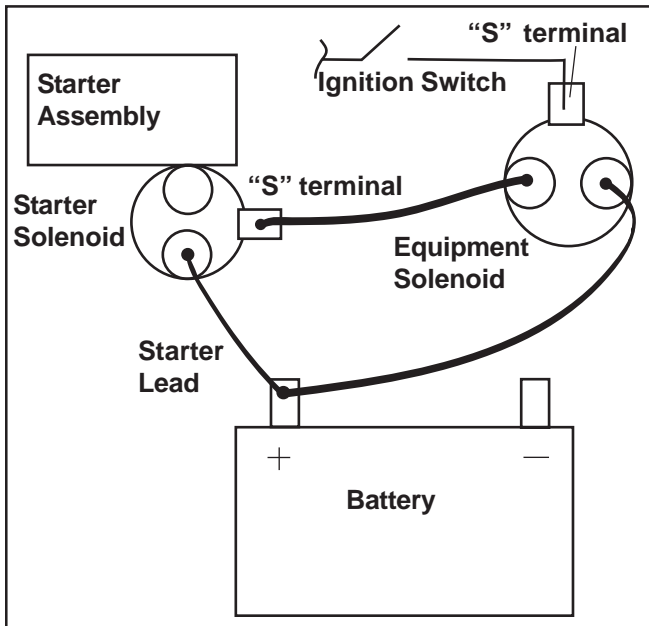

Figure 2.
5. Refer to the new wiring diagram, Figure 2. Relocate the solenoid "S" terminal lead and the main starter lead, to match the diagram. For some applications, it may be necessary to fabricate a new, longer "S" terminal lead. Use 14 gauge wire. Tighten all electrical connections securely. The post terminal on the solenoid of the Delco starter is copper. To avoid damage or breakage, do not overtighten the hex. flange nut when attaching the positive battery cable and B+ lead. Torque the nut to **8-11 N·m (71-97 in. lb.)**.